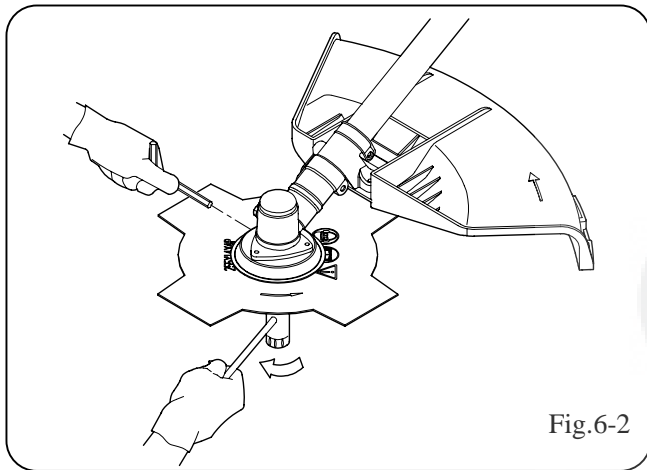

Fig. 6-2
- a) Holder cutter (A) with blade (B) centering
- b) Blade (B) with text and directional arrow facing upwards
- c) Cap cutter (C)
- d) Stabilizer (D)
- e) Blade locking nut (E) (Fig. 6-2)
- d) Blade locking nut (D) (Fig. 6-2)